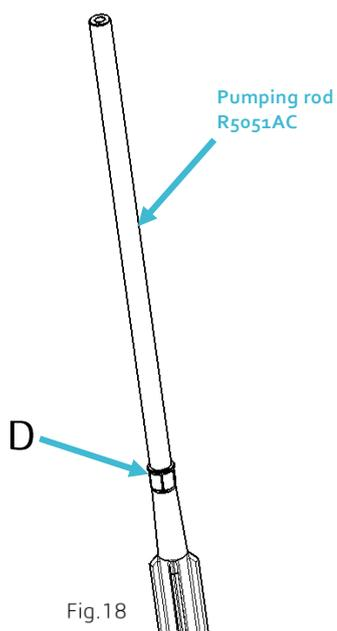

Fig.18
- Make sure that the lock nut (D) is fully tightened.
- Screw the rod R5051RC on the pumping rod as in Fig.18